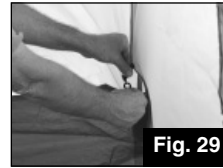

Fig. 29
1. Divider Panel can be installed through center of the tent by inserting the toggles through top and bottom fabric loops as shown. (Fig. 29 & 30)